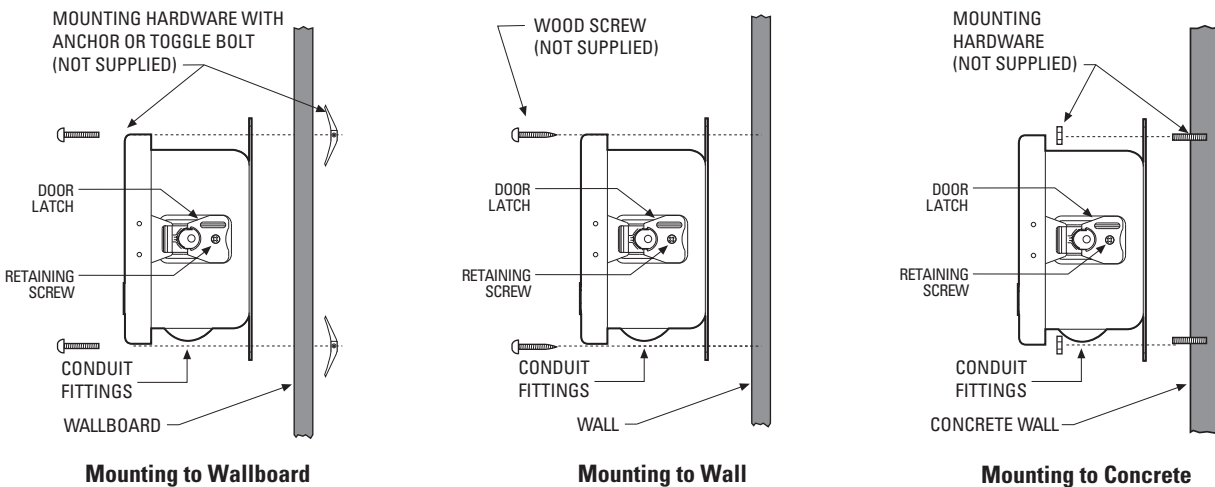

Figure 1. Mounting to Different Wall Types
5. Attach the IPS-RDPE-2 securely with four fasteners of appropriate length. Fasteners between 1/4-inch and 5/16-inch diameter can be used (not supplied). Refer to Figure 1.